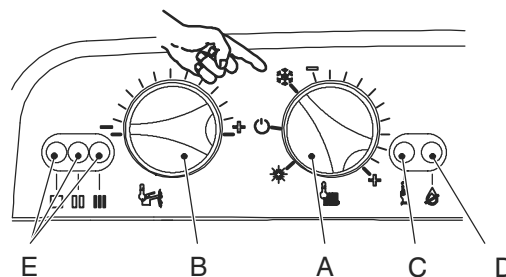

Fig. 9.9
- 1 Turn the boiler ON positioning the function selector knob A as indicated in Fig. 9.9.